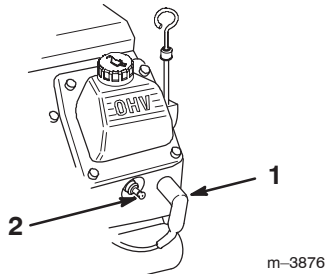

Figure 24
2. Pull the wires off of the spark plugs (Fig. 24).
3. Push the wires onto the spark plugs (Fig. 24).